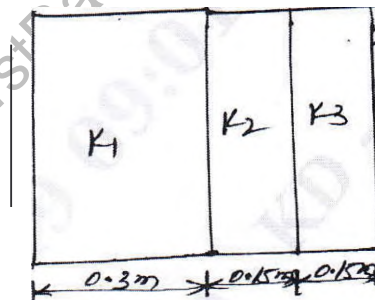

Fig.Q7(b)
- b. A composite slab consists of three materials with thermal conductivities of $20 \text{ W/m}^\circ\text{C}$, $30 \text{ W/m}^\circ\text{C}$, $50 \text{ W/m}^\circ\text{C}$ and thickness 0.3 m , 0.15 m and 0.15 m respectively as shown in Fig.Q7(b). The outer surface is at 20°C and the inner surface is exposed to the convective heat transfer coefficient of $25 \text{ W/m}^2^\circ\text{C}$ and a medium at 800°C . Determine the temperature distribution within the wall. (12 Marks)